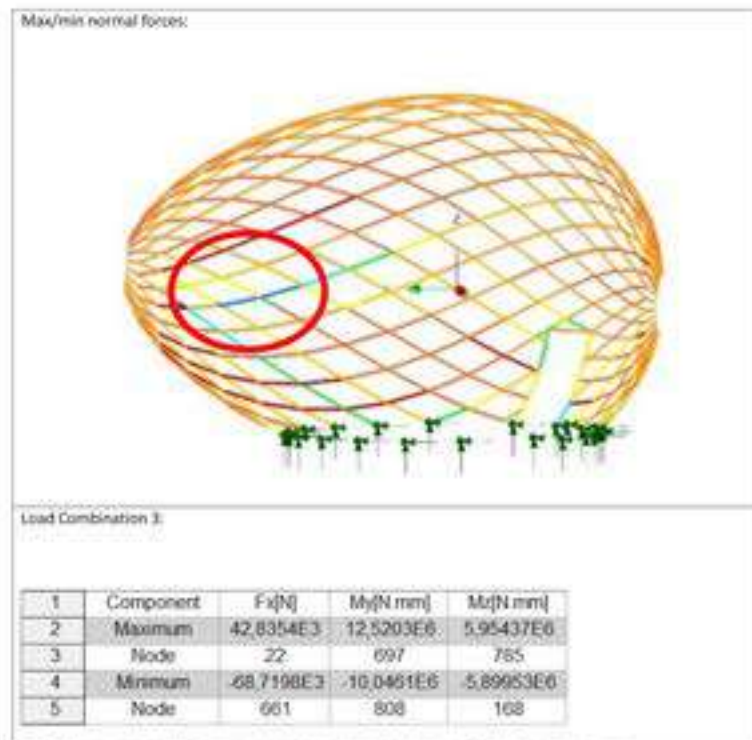

Fig. 5. Maximum and minimum stress results for detail 1 from SLS load combinations.
4.2.1 Wooden members at Doffner connection (Fig. 5 and 6)